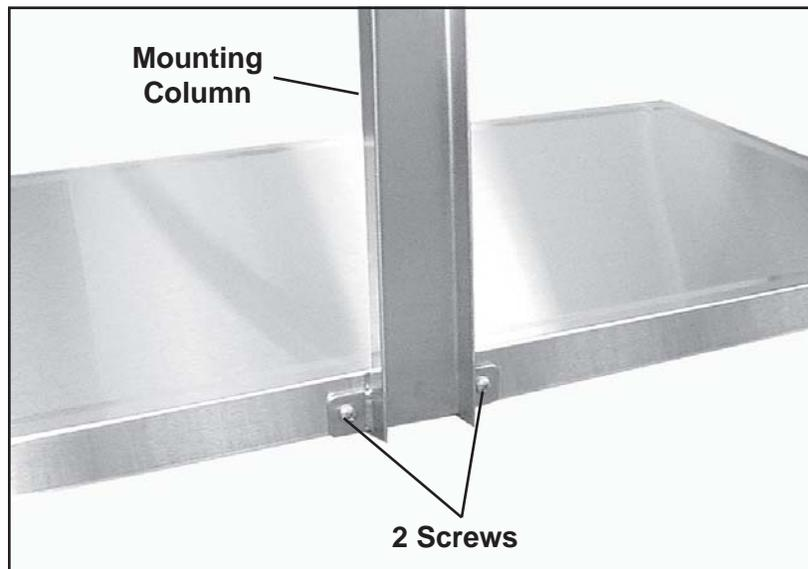

Figure 46. Screws in Scale Top & Mounting Column
3. With a Phillips screwdriver, remove the two screws in the side of the scale platform and remove the old column from the side of the platform (Figure 46).